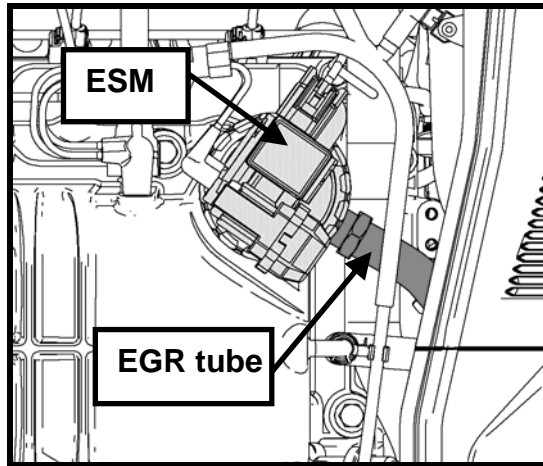
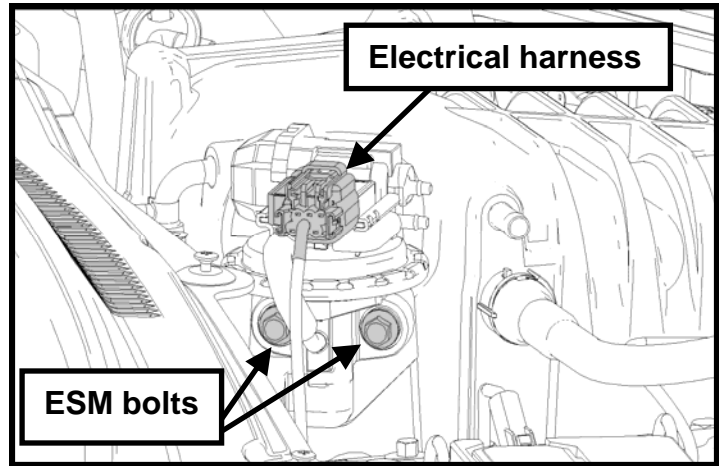

Fig. 9
Fig. 10
- STEP 10:** Remove the ESM (EGR System Module) electrical connector. Remove the EGR tube nut from the ESM (See Fig. 9). Remove the ESM bolts and assembly from the supercharger (See Fig. 10).